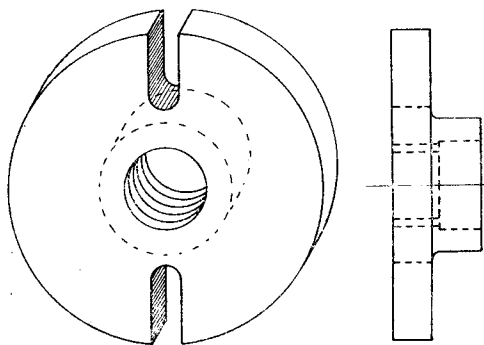

Fig. 5
The machining of the turntable (1) was first taken in hand, and as the casting previously mentioned was too irregular in shape to allow it to be held in the four-jaw chuck, it was, instead, bolted to the driver plate which screws on to the mandrel nose of the lathe. A spare driver plate is kept for mounting work of this sort having two symmetrically placed holes; as depicted in Fig. 5, two slots are formed in the plate to allow for varying bolt centre distances and also to afford a range of adjustment. In addition, the plate can be drilled and tapped, as required, for holding work of irregular shape